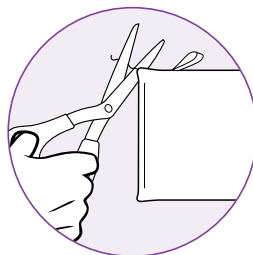

fig. 18
- 2 If there are loose threads on the micro-fiber cleaning pad carefully cut the thread with scissors. Don't pull on them or cut at the base. (fig. 18)